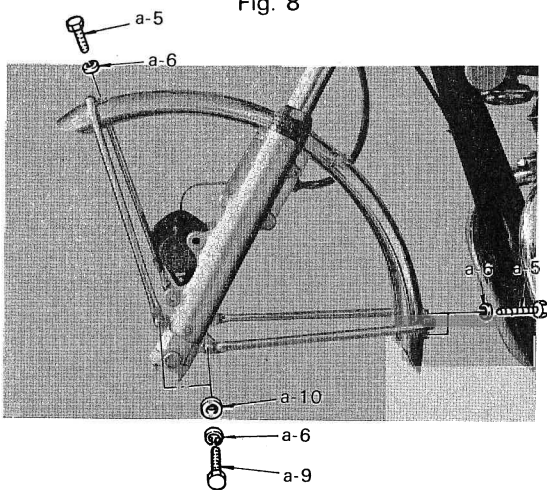

Fig. 9
5. Install the two fender stays (e) on the front fender and the front forks. (Fig. 9)
- a) Use six 6 x 12-bolts (a-5) and six spring washers (a-6) contained in the vinyl bag (1) on the fender side.
- b) Use four 6 x 18-bolts (a-9), four spring washers (a-6), and four plain washers (a-10) contained in the vinyl bag (1) for the front forks side.